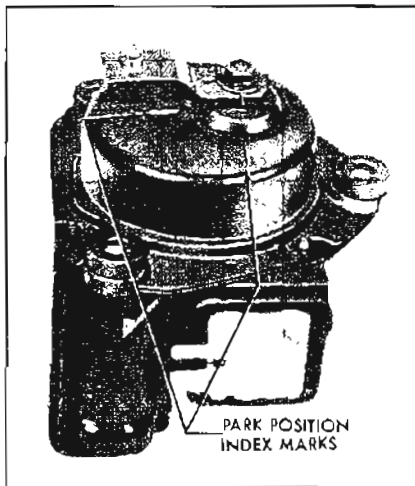
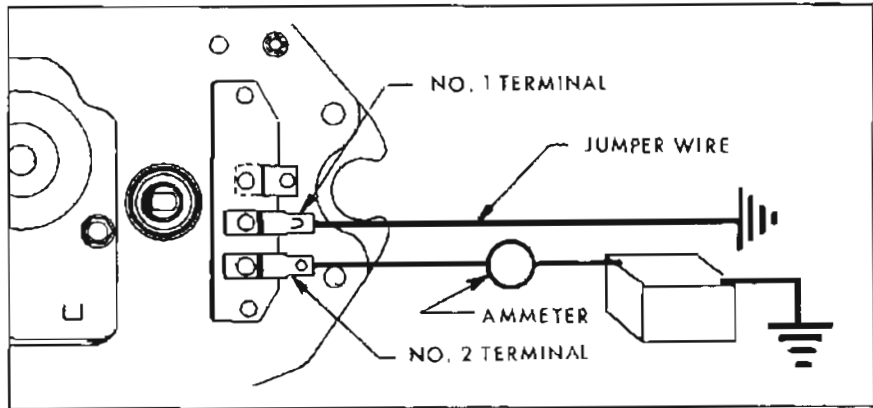

Figure 10-73—Park Position of Crank Arm
Figure 10-75—Connections to Operate Wiper out of Car
When the car owner shuts the wiper "off" at the dash switch, the motor circuit to ground is opened at the dash. However, the parking switch contacts, which are normally closed, maintain the motor circuit to ground at the wiper. This allows the wiper to keep operating until the blades or wiper crank arm reach the park position (Blades approx. 2" above windshield molding). (Figure 10-73 shows the crank arm in park position.) At the same time the blades reach the park position, a cam on the output gear opens the park switch contacts. This opens the motor circuit to ground, stopping the motor. Thus, the park switch actually controls wiper operation only during that short period of time, after the owner turns the wiper "off" at the dash switch but before the wiper has completely stopped.
Figure 10-75 shows the proper method of connecting jumper leads to the wiper so that it can be operated independently of the dash switch or car wiring for test purposes. (NOTE: Specification table at end of this section lists current draw data.)
operate, disconnect wiring harness from wiper and check for 12 volts at harness terminal that connects to wiper terminal No. 2, Figure 10-75. No voltage indicates defective car wiring. **CAUTION: DO NOT connect hot line to No. 1 terminal.**
(c) Connect 12 volt supply to No. 2 wiper terminal and connect a jumper wire from terminal No. 1 to ground (Figure 10-75). If wiper operates, the dash switch or wiring between dash switch and wiper is defective.
(b) If wiper still operates, disconnect wiring from wiper and connect 12 volt supply direct to wiper terminal No. 2 (Figure 10-75). **DO NOT** connect any jumper wire to terminal No. 1.
Connect a 12 volt supply and an ammeter to wiper as shown in Figure 10-75 and observe current draw and wiper operation.
is removed from wiper terminal No. 1 (Figure 10-75).
(b) Check for grounded condition in the internal motor lead that connects to terminal No. 1, Figure 10-75.
Wiper crank arm stops rotating immediately when jumper wire is disconnected from wiper terminal No. 1 (Figure 10-75). **NOTE:** Crank arm should continue to rotate until park position is reached (Figure 10-73).
2. Reassembly of Crank Arm Operate wiper to park position (Figure 10-75) and install crank arm on output shaft in the position shown in Figure 10-73. Clamp crank in vise before securing the retaining nut.